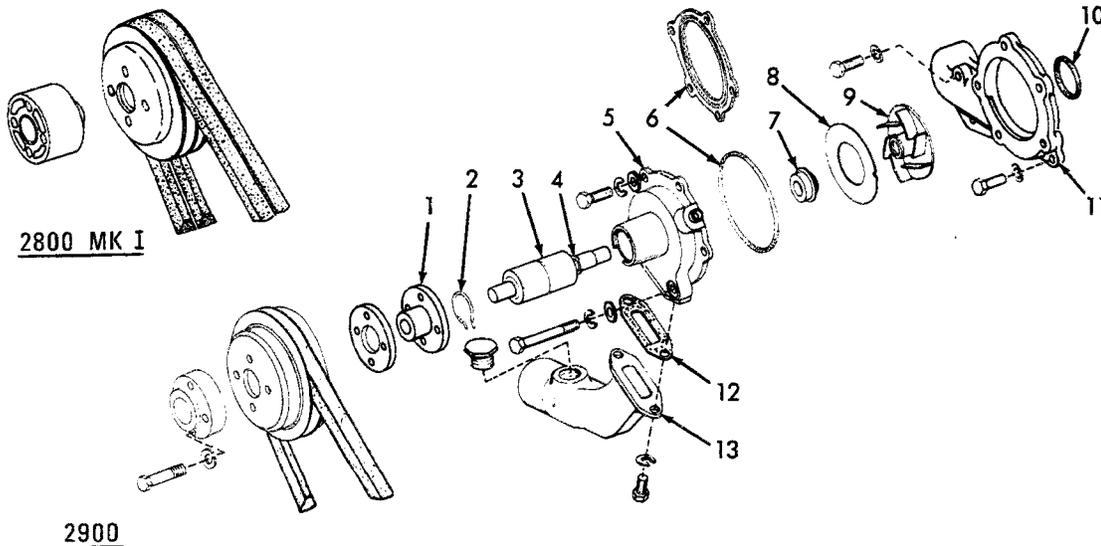
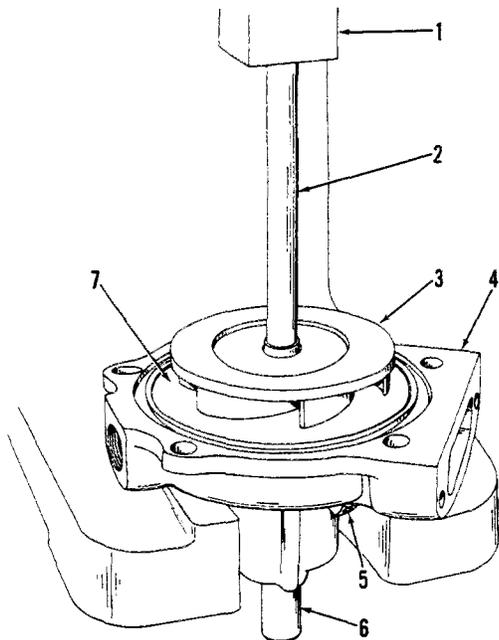

FIG. 5 WATER PUMP PARTS
FIG. 7 REMOVING IMPELLER, SHAFT, AND BEARING ASSEMBLY (T-51192)
- c. Place water pump assembly in position on a press, impeller end up, Fig. 7. Make certain the pump rests on back of pump body and not on the water inlet or the drain hole. Press end of shaft until shaft and bearing assembly is out of the pump body. Remove impeller and body plate (Model 2900 only) from the pump body and drive out seal assembly, Fig. 5 (7).
The water pump is assembled by reversing the disassembly procedure. See Fig. 5 for relative parts location.